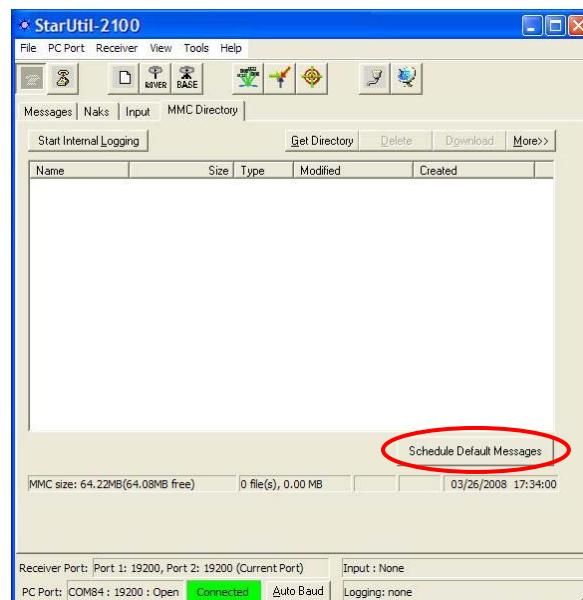

Figure 106: Schedule Default Messages Button
- ✓ Click the *Schedule Default Messages* button (see Figure 106). The *NCT Binary Messages* window opens. Second instances of the default messages 44, 81, 86, B0, and B1 are scheduled and assigned to the *Log* port. (Second instances of the default messages A0 and AE are not scheduled to log.)